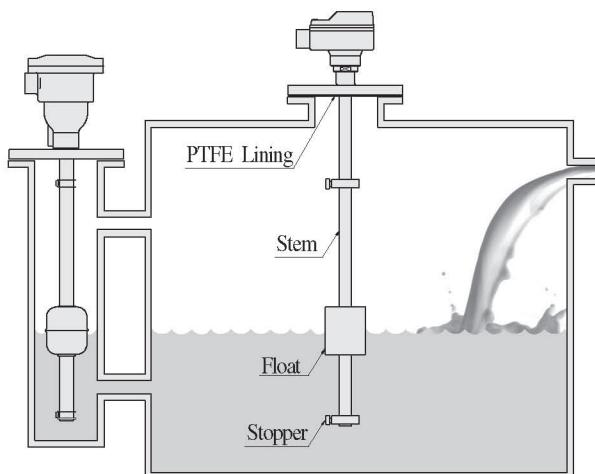

Fig.3 Sensor의 취부방법
- 1) Install it like shown on Fig 3.